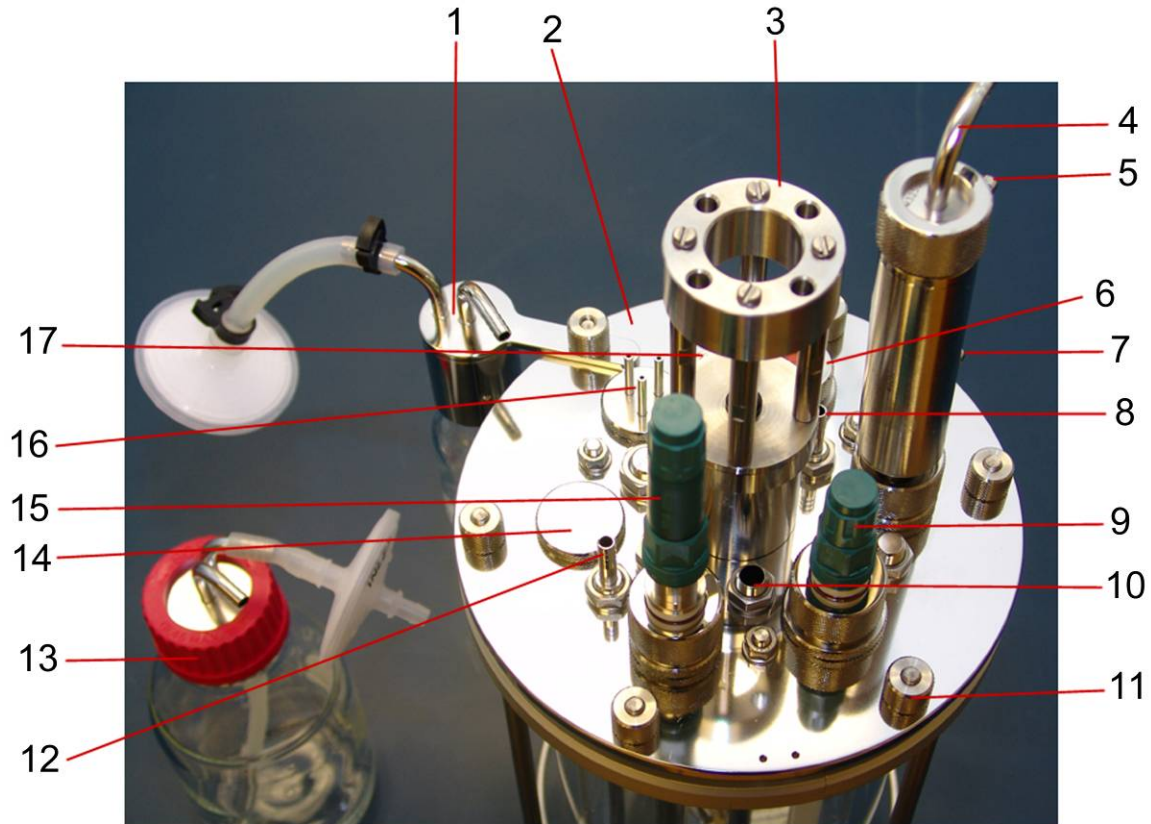

Figure 3: Assembled Headplate
- 9.3. Figure 3: Assembled Headplate